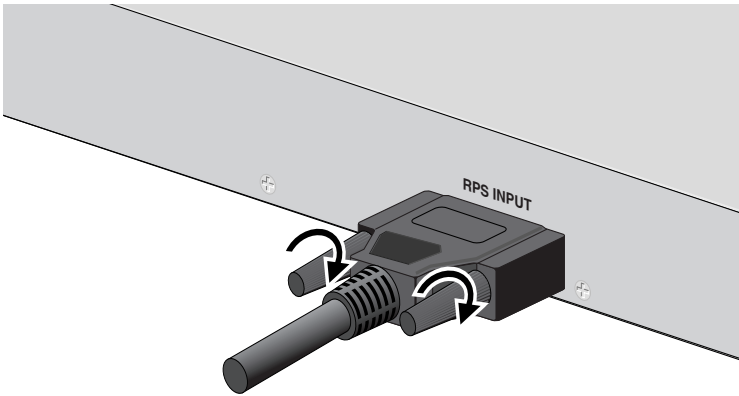

Figure 21. Securing the RPS Cable to the Switch
10. Tighten the thumb screws on the connector to secure the cable to the switch (see Figure 21).